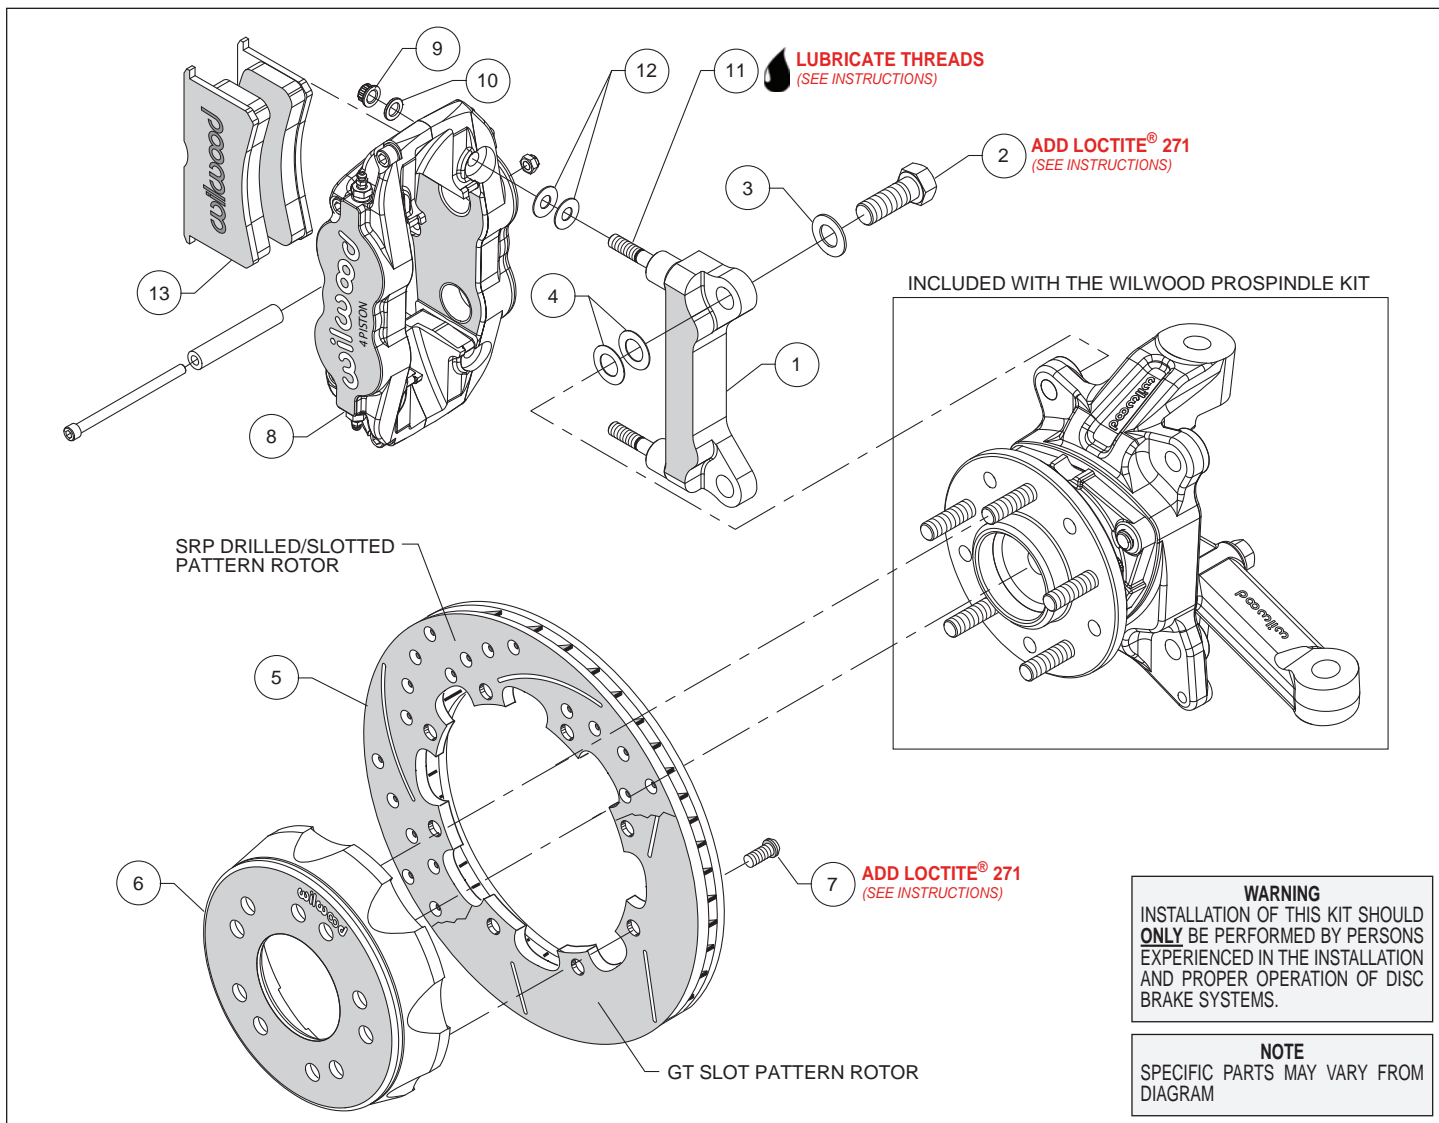

Figure 1. Typical Installation Configuration
Assembly Instructions (numbers in parenthesis refer to the parts list and Figure 1 on the preceding pages):
- The caliper mount bracket (1) should initially be installed with clean, dry threads on the mounting bolts. Orient the bracket as shown in Figure 1 and Photo 1 and install using mount bolts (2) and washers (3). Initially place two .024" thick shims (4) on each bolt between the bracket and spindle, Figure 1. Temporarily tighten the mounting bolts. **NOTE:** The bracket must fit squarely against the mounting points on the spindle. Inspect for interference from casting irregularities, machining ridges, burrs, etc. Later, after the caliper alignment has been checked, the mount bolts will be secured using red Loctite® 271.
- Orient the rotor (5) and the hat (6) as shown in Figure 1 and Photo 2. Attach rotor to hat using bolts (7). Using an alternating sequence, apply red *Loctite*® 271 to the threads, and torque to 25 ft-lbs.
- Lubricate the caliper mounting studs (11) with lightweight oil. Initially place two .035" thick shims (12) on each stud as shown in Figure 1 and Photo 5. Mount the caliper (8) onto the bracket (1) using lock nuts (9) and washers (10), Figure 1. Temporarily tighten the lock nuts and view the rotor through the top opening of the caliper. The rotor should be centered in the caliper, Photo 6. If not, adjust by adding or subtracting shims (4) between the bracket and the spindle. Always use the same amount of shims on each of the two mounting bolts. Once the caliper alignment is correct, remove the bracket mounting bolts one at a time, apply red *Loctite*® 271 to the threads, and torque to 140 ft-lb.